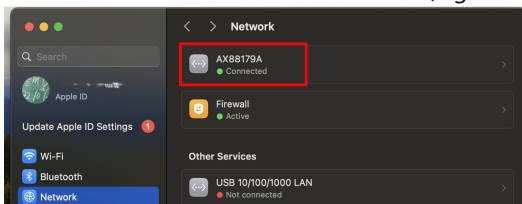

Figure 10
4. Navigate to **Settings** and select the **RJ45 Ethernet Device** that will be connected to the **Print Server**. (Figure 10)